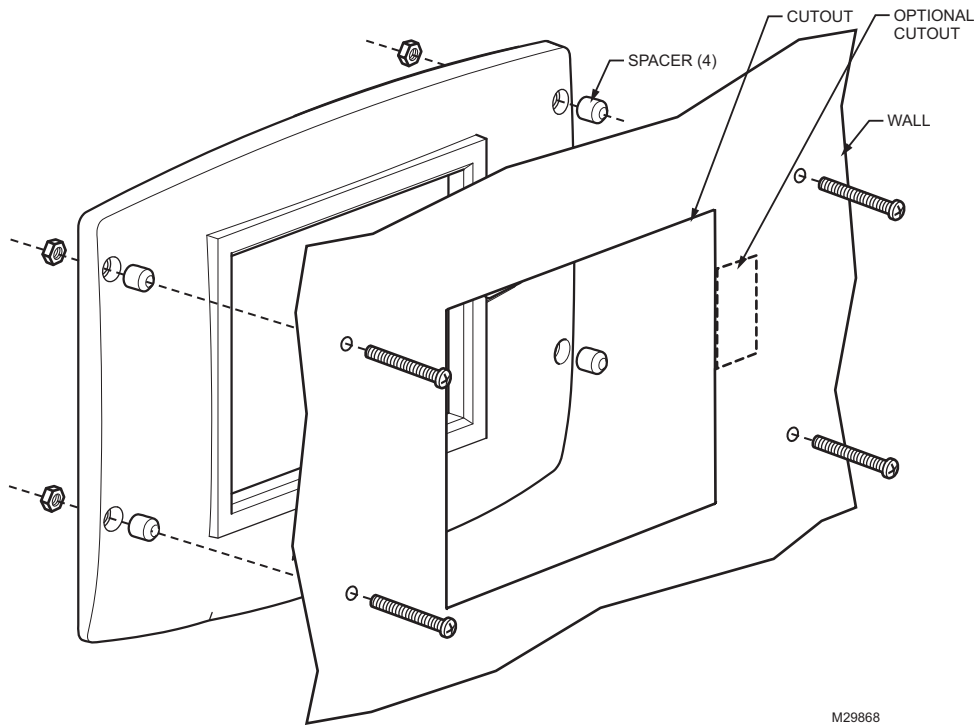

Fig. 10. Mounting the S7999C OI Display behind the door panel.
2. Cut an opening to facilitate mounting the display into the door panel. See Fig. 1 for the dimensions for mounting the display from the front of the door. See Fig. 10 for mounting the display to the back of the door. If desired, cut a notch so the LEDs will be visible as well. Tear off templates are also available on the back pages of this Manual (see Fig. 121 on page 63 and Fig. 122 on page 65).
- Secure the OI Display to the panel using the four #6-32 screws and nuts, as shown in Fig. 10. (Standoffs are provided for mounting the OI Display from the back of the door.)